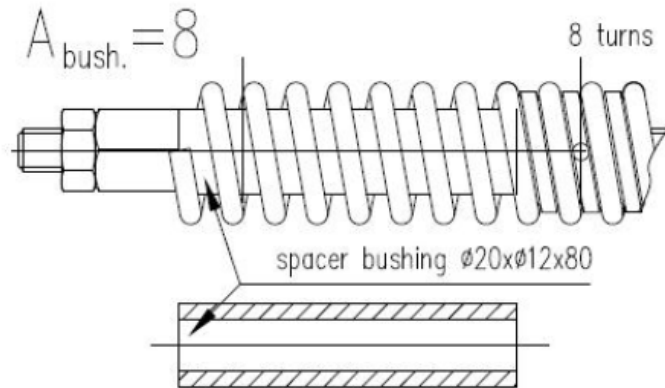

Figure 6. spring rate adjustment
- If necessary, add the spacer bushing between the adjusting nut & bushing (to be able to access the adjusting nut by a screw wrench, see Figure 6)